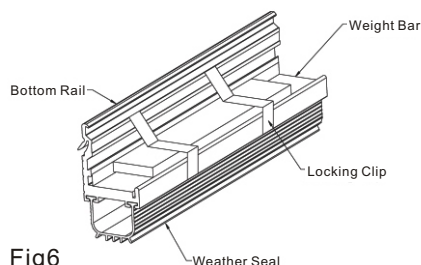

Fig6
- r. Place the weight bar provided on the bottom rail. Secure the weight bar with the two spring clips provided 300mm from each end of the weight bar. (Fig. 6) We also advise the use of silicone in securing the weight bar in place before clips are fitted.